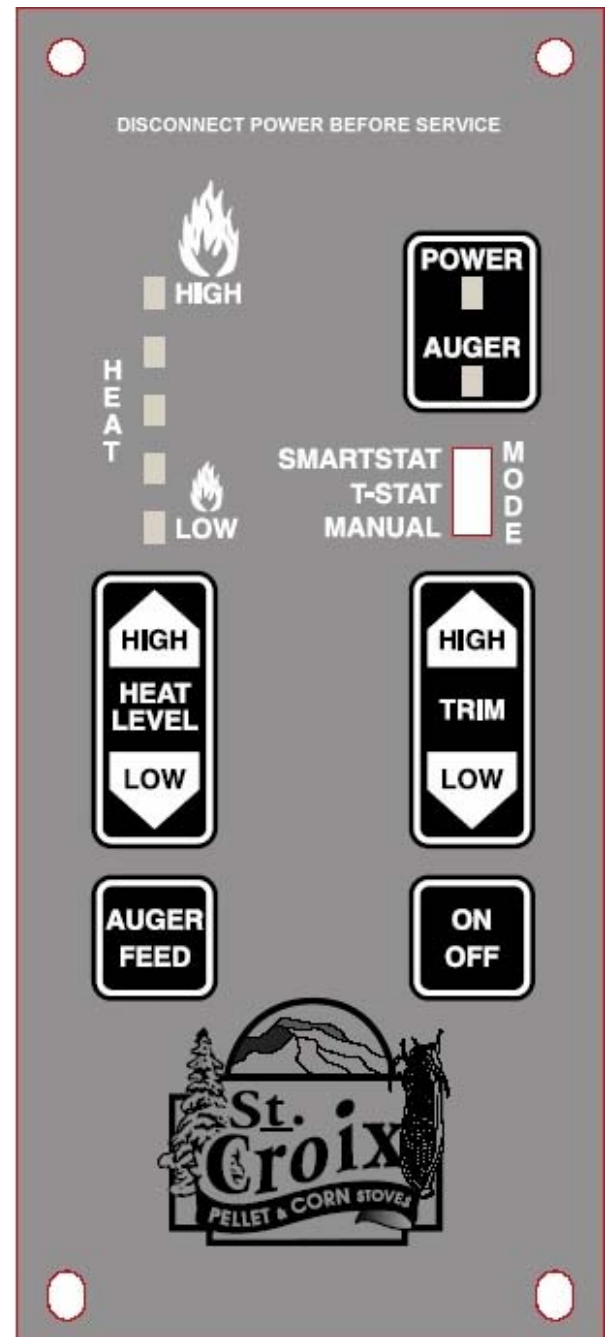

Figure 17
A closer look at the Control Board to the right in figure 17 will explain how the board works. There are essentially 4 buttons on the control board. Two of these buttons, the **Heat Level** and **Trim** Buttons, have a High/Low side to advance these settings up or down. There is a slide switch that controls the Thermostat Mode and an LED Light bar that indicates which of the 5 Heat Settings the Furnace is running on.
Shutting The Furnace Off *(Refer to Figure 17)*
The #2 LED, #3 LED and #4 LED lights on the LED Light bar (*See figure 17*) will flash to give a diagnostic code to help in diagnosing problems that may occur.
1. The **Proof of Fire** switch. This switch will sense the temperature of the Exhaust rising during start up. If the Exhaust temperature does not reach 110 degrees F, or if, during use, the temperature drops below 110 degrees F, the Furnace will go into **“Internal Alarm”** and the Auger will quit feeding fuel. Once the Furnace completes the safety shutdown, the #3 LED will start blinking. (*See Figure 17 on Page 29*)
2. The **High Limit** switch. This sensor will sense if the unit reaches temperatures that are too high for normal operation. If this happens the Auger will quit feeding and the #4 LED light will start blinking. (*See Figure 17 on Page 29*)
3. The **Vacuum** switch. For the Furnace to operate correctly the firebox needs to be sealed. During the first 30 seconds after the Furnace has been turned on the control board will check to see if the switch senses negative pressure (Vacuum) in the firebox of the Furnace. If there is no negative pressure, the Furnace will go into **“Safety shutdown”** and the #2 LED will start blinking. (*See Figure 17 on Page 29*)